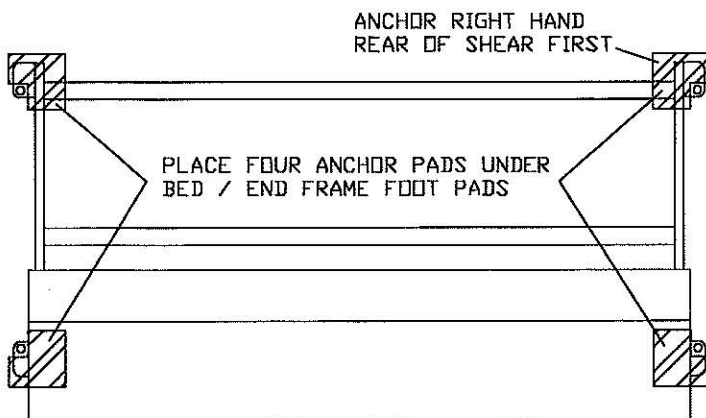
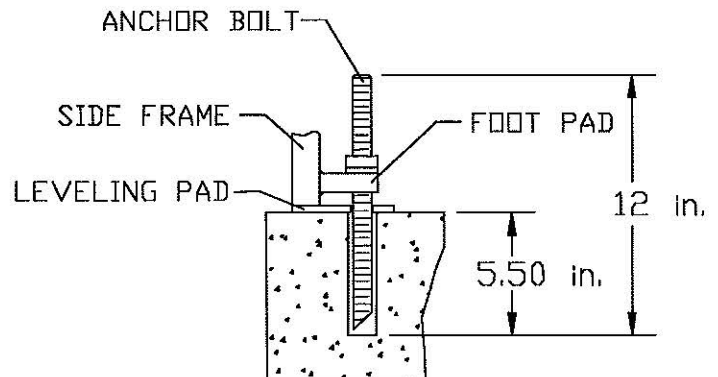

FIGURE 1
FIGURE 2
Step 2. Drill a 1" diameter clearance hole (with supplied concrete drill) for the right hand rear anchor bolt as shown in Figure 1. Clearance holes should be 5 \_" deep (Figure 2).
Step 4. Remove skids from shear and position right hand rear shear foot pad over anchor bolt. Place the four anchoring pads under bed/end frames and the foot pads (Figure 2). Carefully lower machine so that the hole in the right rear foot pad clears the anchor bolt.